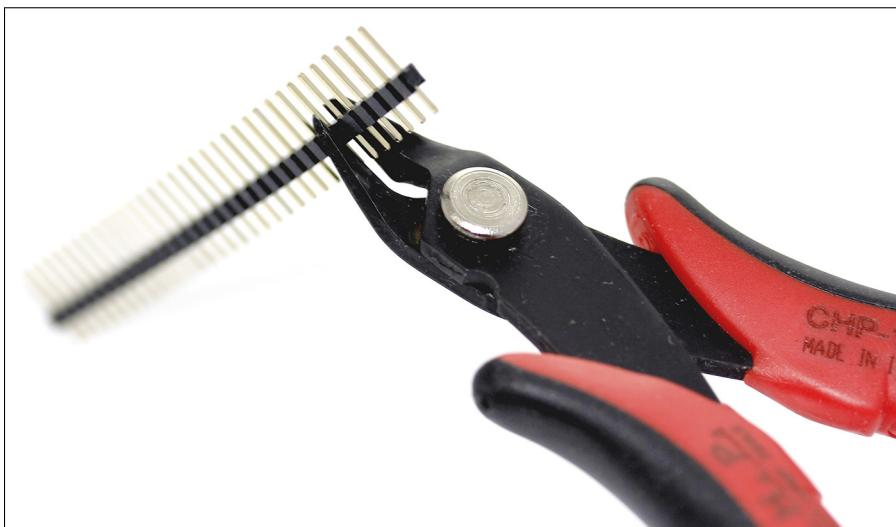

Figure 15-2:
1. **Using a pair of wire cutters, cut the length of header pins so that you have two lengths of 1 x 6 (see Figure 15-2).**